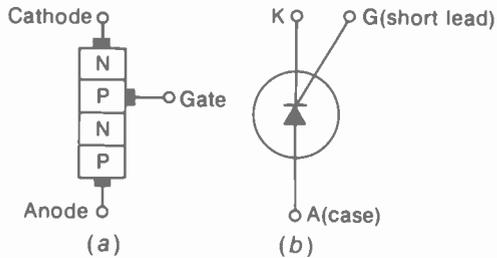

FIGURE 7-18 SILICON CONTROLLED RECTIFIER OR SCR. (a) CONSTRUCTION. (b) SYMBOL.
**Silicon controlled rectifier (SCR).** As shown in Fig. 7-18, the SCR is a four-layer device used as a silicon rectifier. However, the start of conduction is controlled by a gate electrode. When forward voltage is applied between cathode and